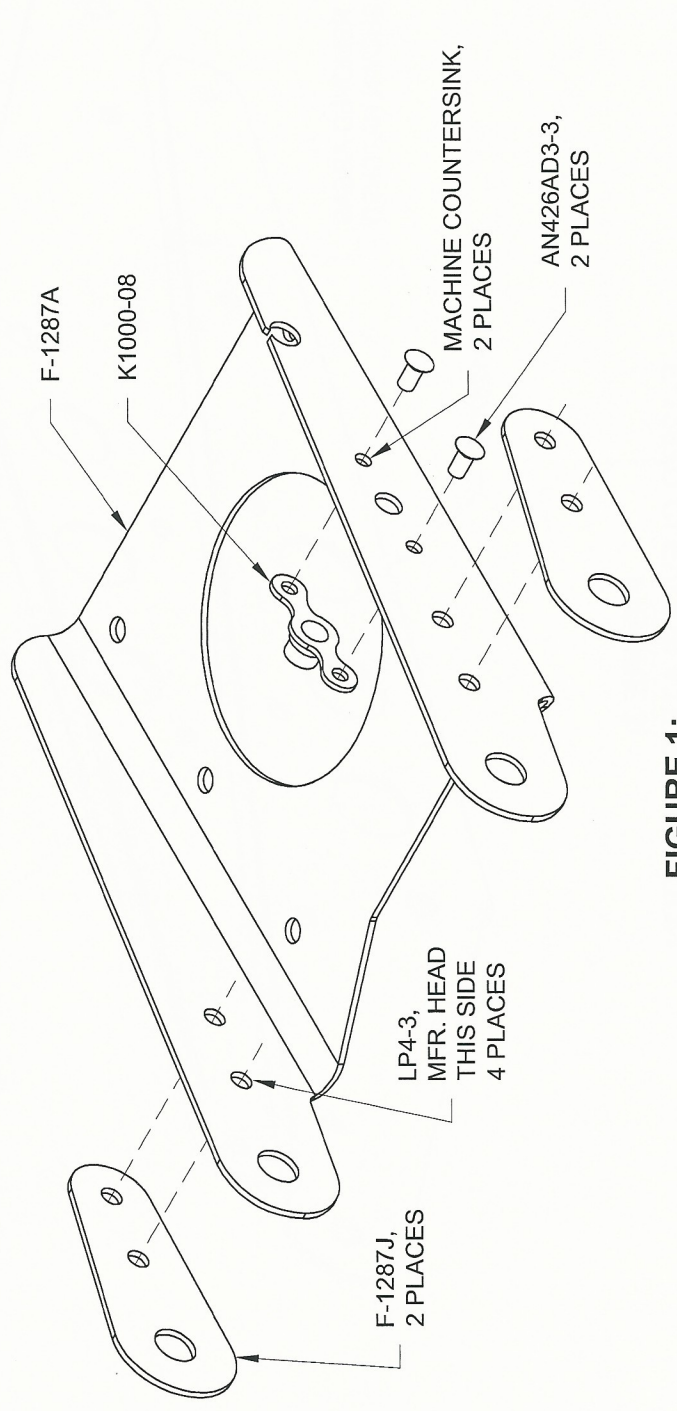

FIGURE 1:
- Step 1: Machine countersink 100° the nutplate attach rivet holes called out in Figure 1.
- Step 2: Rivet the nutplate onto the inside of the F-1287A Servo Tray using hardware called out in Figure 1.
- Step 3: Rivet the F-1287J Doublers to the F-1287A Servo Tray. Orient and use rivets as called out in Figure 1.